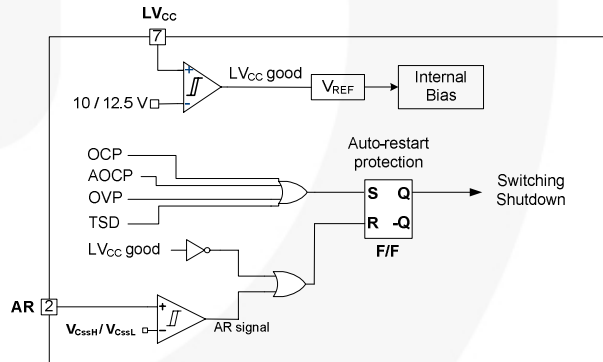

Figure 22. Protection Blocks
5. Protection Circuits: The FSFR-US series has several self-protective functions, such as Over-Current Protection (OCP), Abnormal Over-Current Protection (AOCPP), Over-Voltage Protection (OVP), and Thermal Shutdown (TSD). These protections are auto-restart mode protections as shown in Figure 22.